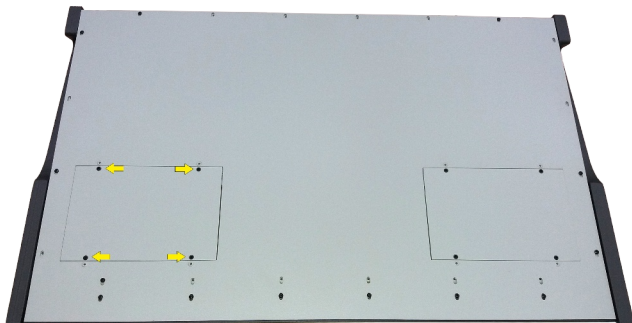

Figure 4: Access to the faders
4. Remove the 4 screws indicated in figure 4 and remove the corresponding cover. The example replaces fader number 8, located on the right side of the console. Note that when you flip the unit over, faders 7 through 12 will be on the left.